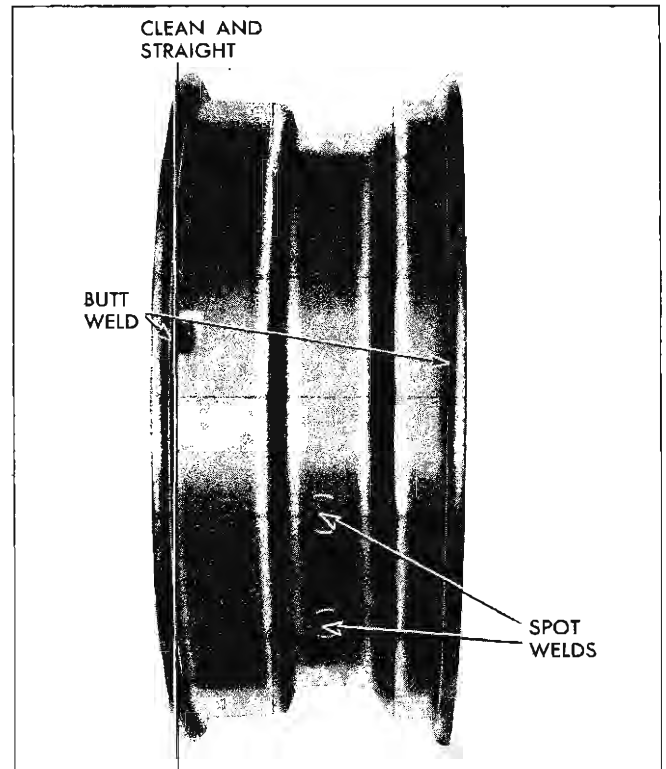

Fig. 26—Rim Inspection
3. Inspect the butt-weld in the rim flange area to make certain there is no groove or high spot (fig. 26). Any grooves or high spots must be filed flat and smooth.